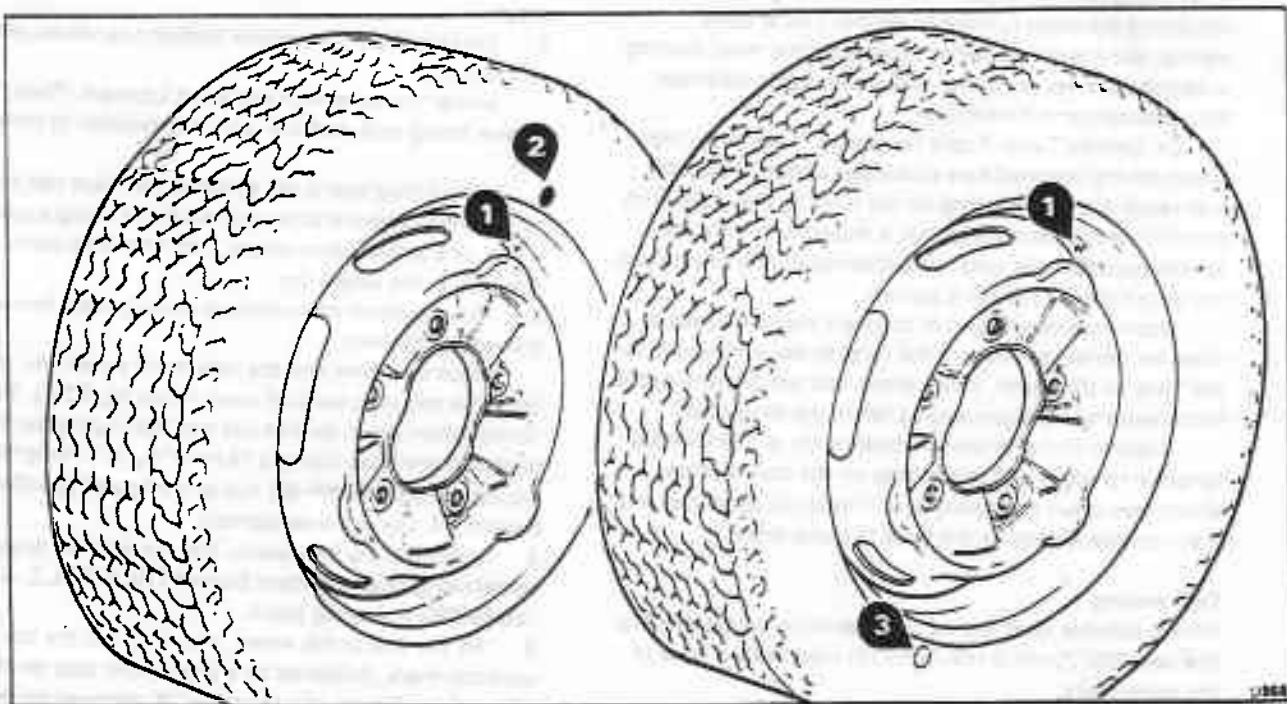

Fig. R2-2 Wheel and tyre markings
5. Fit the tyre to the wheel, ensuring that the force variation mark, indicated by a green paint spot on the sidewall, is aligned with the letter 'H' stamped on the wheel rim (see fig. R2-2).
diametrically opposite the letter 'H' stamped on the wheel rim (see fig. R2-2). Any additional colour spot markings should be ignored as they are merely used by tyre manufacturers for inspection purposes.